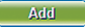

**Figure 28** MDM4 Main Spanish Screen Example
**NOTE:** A sample screen of MDM4 operating in Spanish is shown in Figure 28.